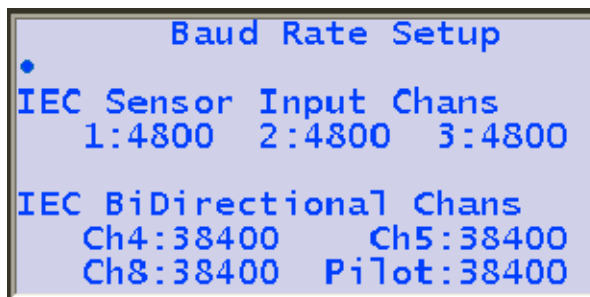

Figure 2-20. Baud Rate Setup Screen
- (1) Press the FNC key, press the NAV key. The AIS Main System Menu screen will appear.
- (2) Using the down Arrow key, select Set Baud Rate, and press the ENT key. The Baud Rate Setup screen will appear. (Refer to Figure 2-20.)
- (3) Using all of the arrow keys, highlight an entry point, and press the ENT key.
- (4) Enter the data, press the ENT key, and move to the next data entry point.
- (5) Press the ESC key to return to the AIS Main System Menu screen.